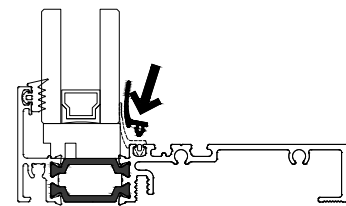

FIG. 5
- b. Starting at the sill, insert airseal gasket starting from one end, repeat this every 16 inches. Ensure opposite end of the gasket is inserted before rolling remaining gasket. **See FIG. 5.**